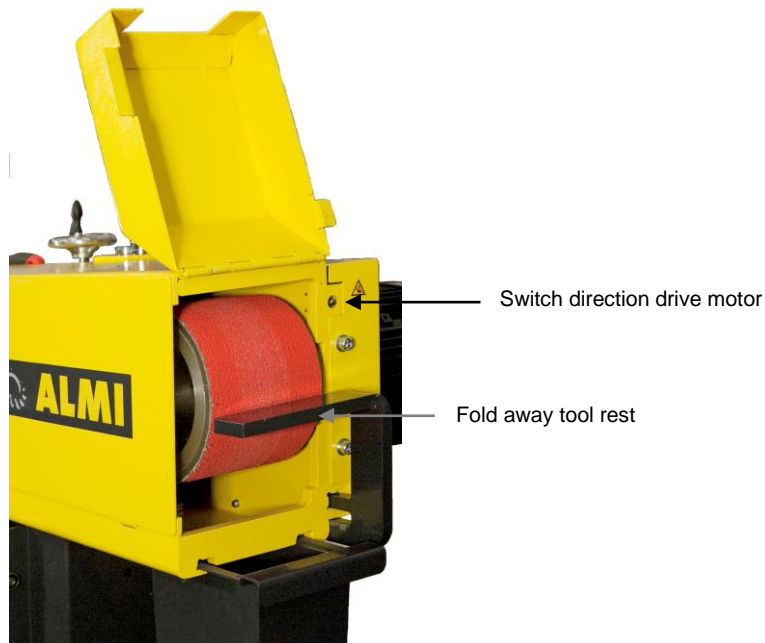

Figure 4.6-1: Deburring table
- l. Reverse switch, see also figure 4.6-1.
The back of the machine is equipped with a fold away tool rest, for example, deburring of the pipe carved profile. See Figure 4.6-1. For the purpose of deburring, the sparks cap must be placed on the shielding plate. When the tailgate is opened, the engine stops automatically.